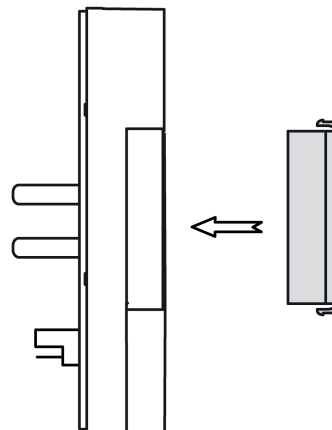

Figure 17: Mounting, cover, ranges LS/CD and A ranges
- Mount the cover for the left or right side of the device (3) (figure 17).
- Mount the cover from the front on the left or right side of the device (figure 17).